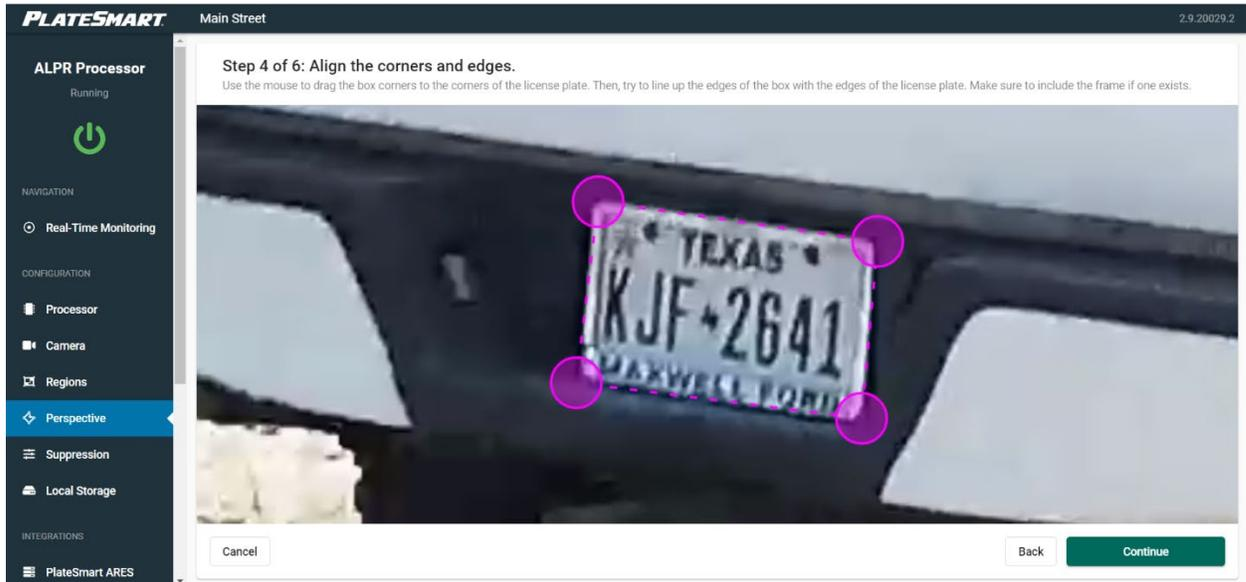

Figure 5
- Click each dot and move it so that the dotted lines align as closely as possible with the edges of the license plate (Figure 5). Click “Continue.”